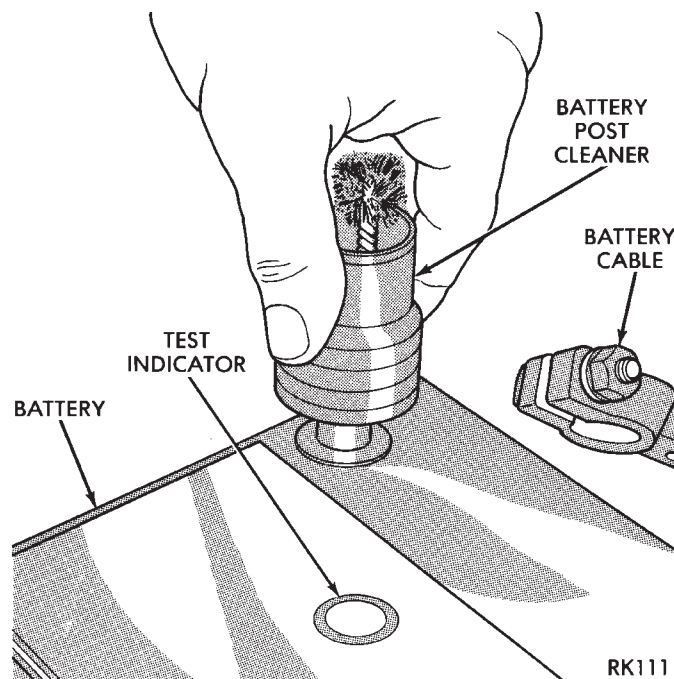

Fig. 5 Cleaning Battery Posts
- (8) Clean battery posts with a suitable battery post cleaning tool (Fig. 5).